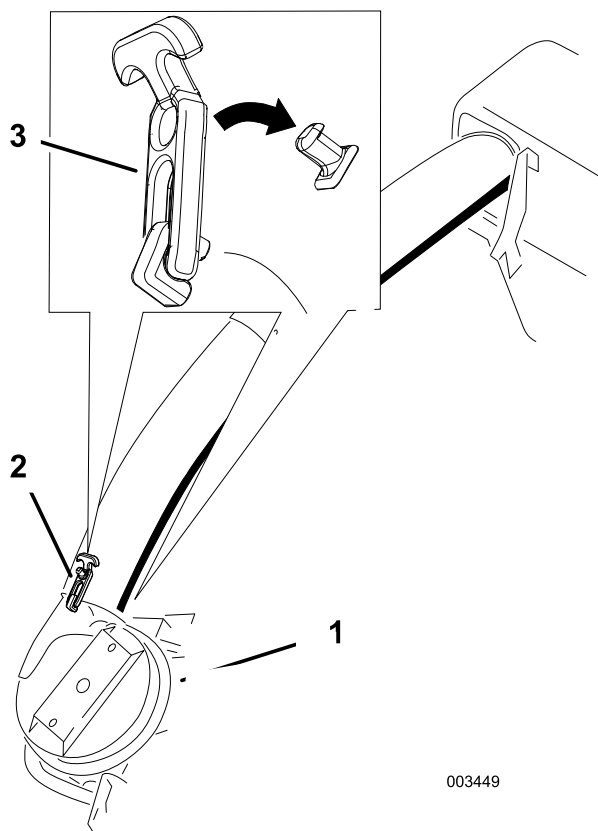
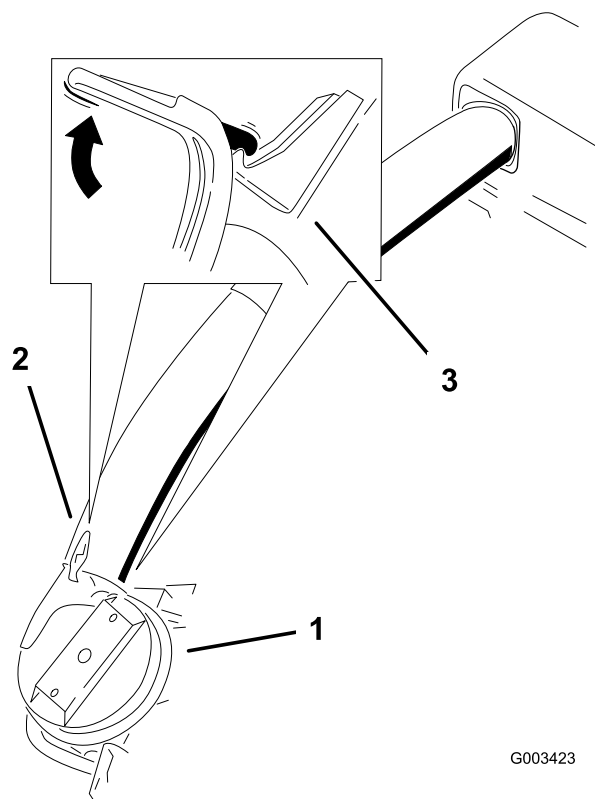

Figure 27
Figure 28
9. Slide the lower tube onto the boot and latch them together (Figure 27 or Figure 28).